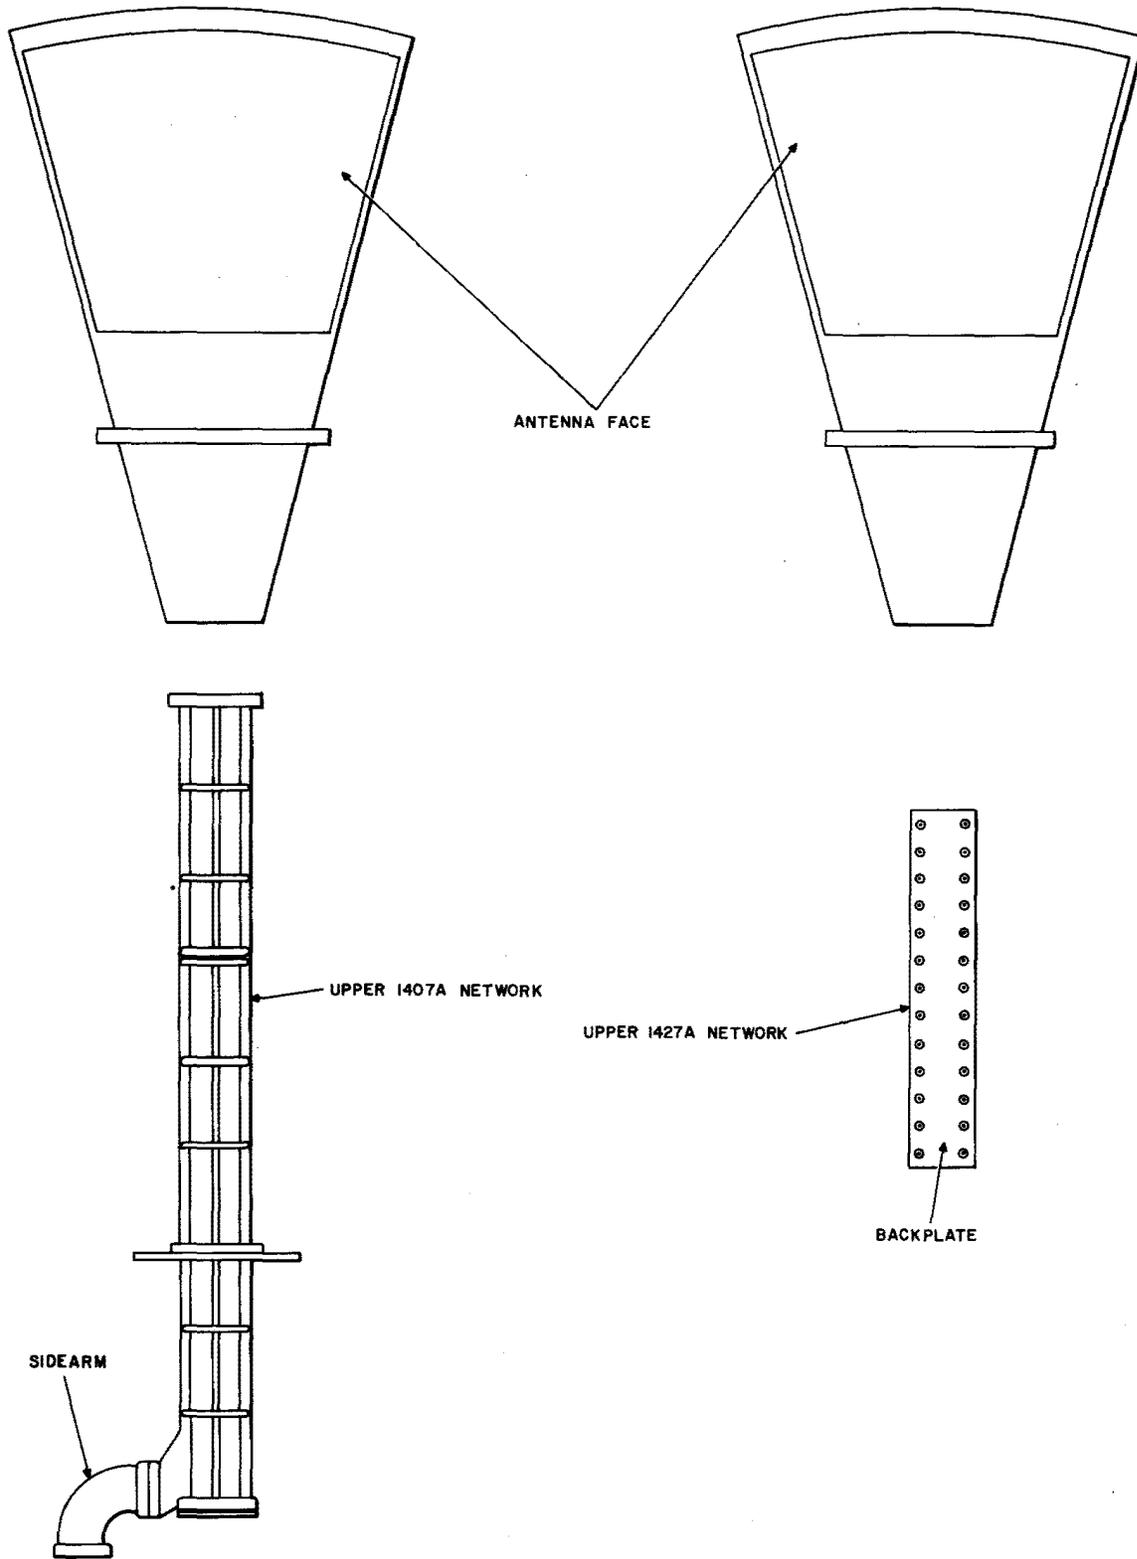

Fig. 3—Network Orientation for Horizontal Polarization
**2.09** The uppermost network to be installed shall be orientated for horizontal polarization. All networks except the 1427A, 1424A, and 1434A networks should be positioned so that the side arm (rectangular waveguide port) is parallel with the face of the antenna (Fig. 3). This orientation will position these three networks for horizontal polarization. To position the upper 1427A network